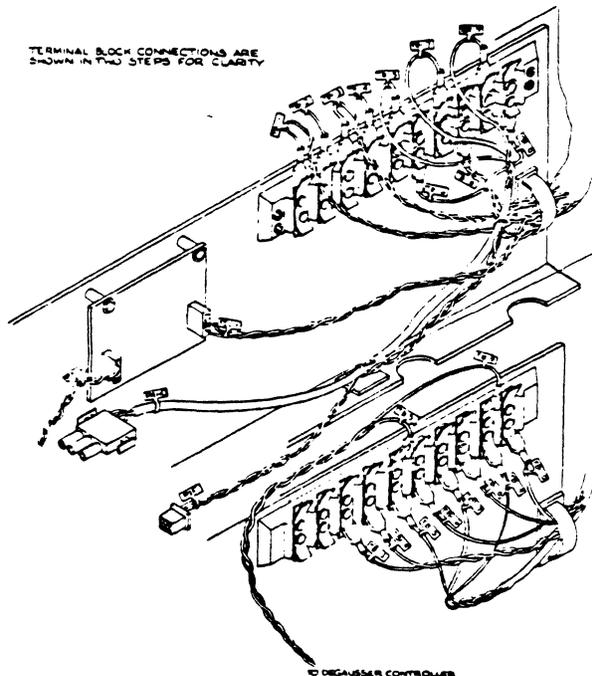

Figure 1-11 AC Module Wiring
3. Disconnect the AC wires from the terminal block on the AC module and from the connector for the degaussing control (see Figure 1-11).
2. Remove all labeled wires from terminals 1 through 10 on the AC module and connectors J1 and J3 from the 60 cycle sync board (see Fig. 1-11).